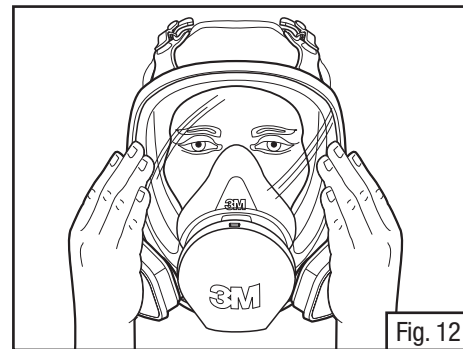

Fig. 12
1. Place palms of hands to cover face of cartridge or open area of 3M™ Filter Retainer 501 and inhale gently. If you feel the facepiece collapse slightly and pull closer to your face with no leaks between the face and facepiece, a proper seal has been obtained (Fig. 12).